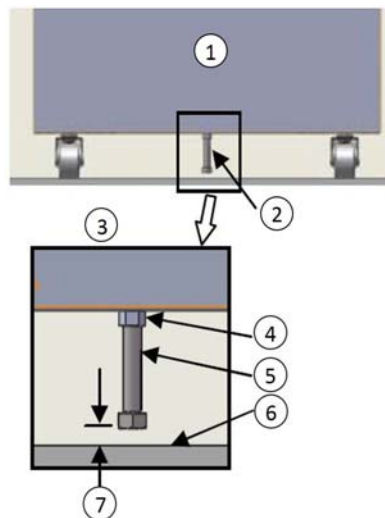

Figure 9. Bolt Location
- b. Unscrew 1/2" bolt until there is 1/2" clearance between floor and head of bolt as shown in *Figure 9* below.